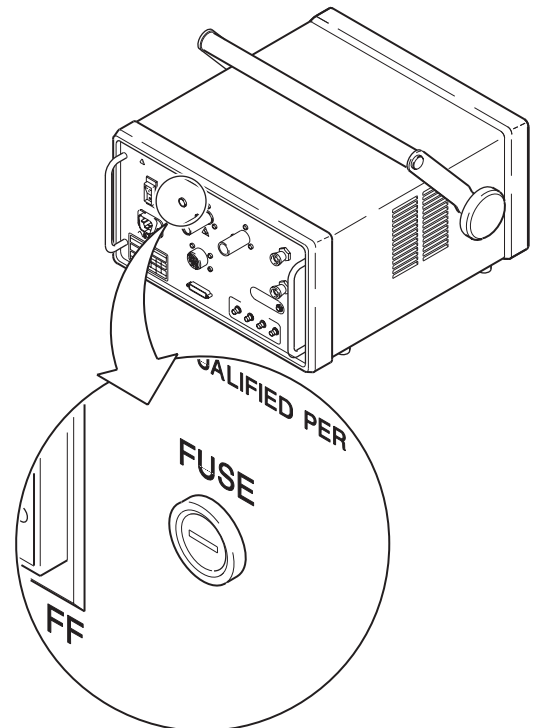

Figure 109 Ceramic Fuse Location
- a. Unscrew the fuse cap using a flat blade screwdriver. See Figure 109.